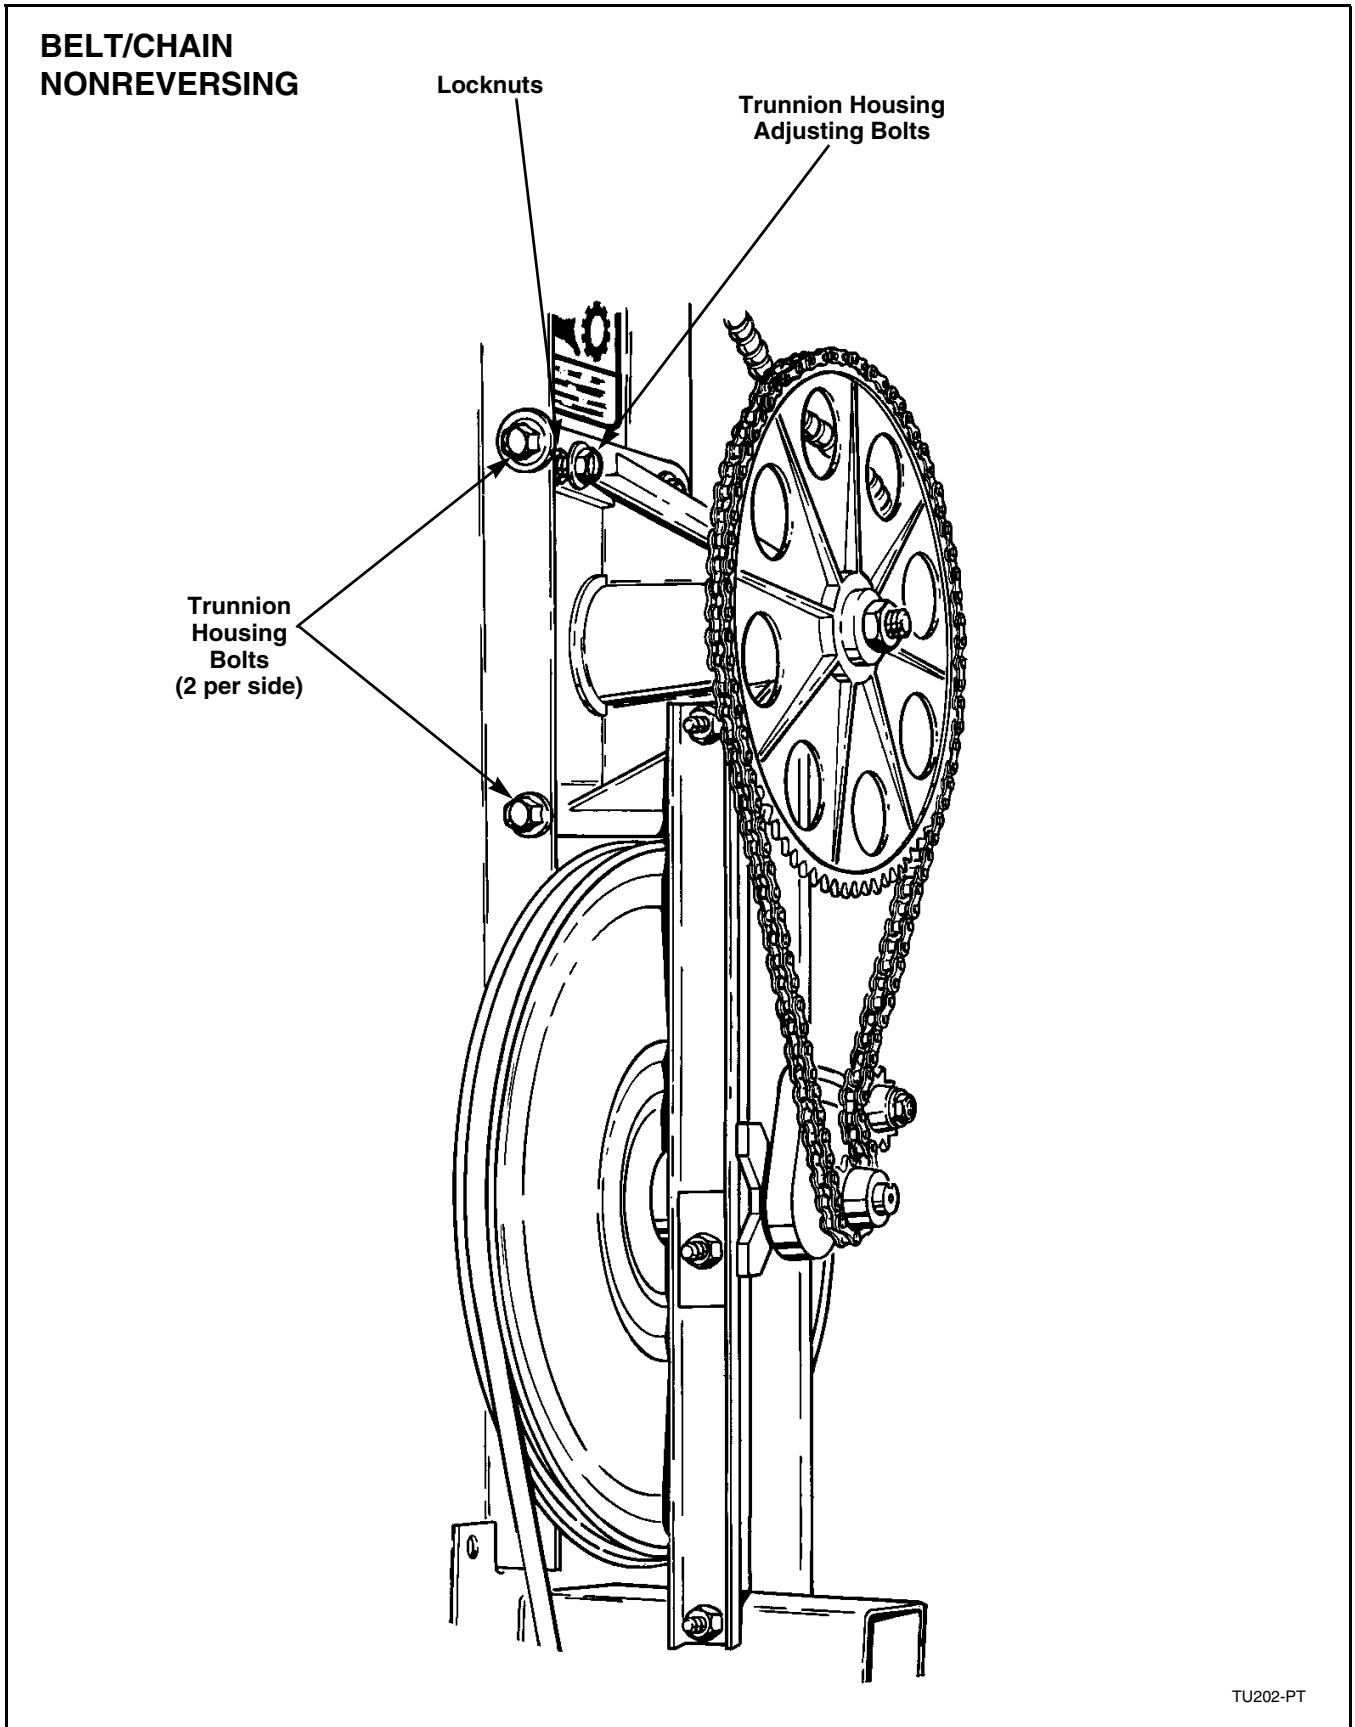

Figure 2
- c. Loosen the four trunnion housing bolts. Refer to *Figure 2*.
- d. Loosen the locknuts on the trunnion housing adjusting bolts. Refer to *Figure 2*.